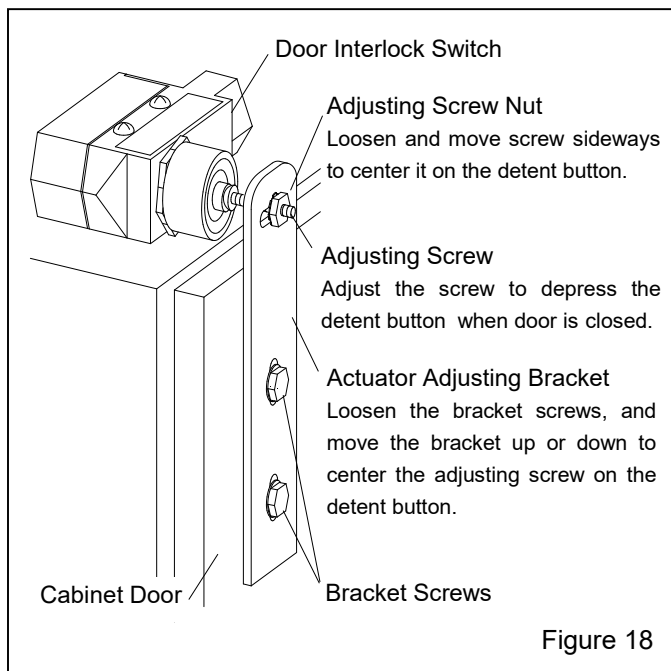

Figure 18
5.6 Door Interlock – Figure 18